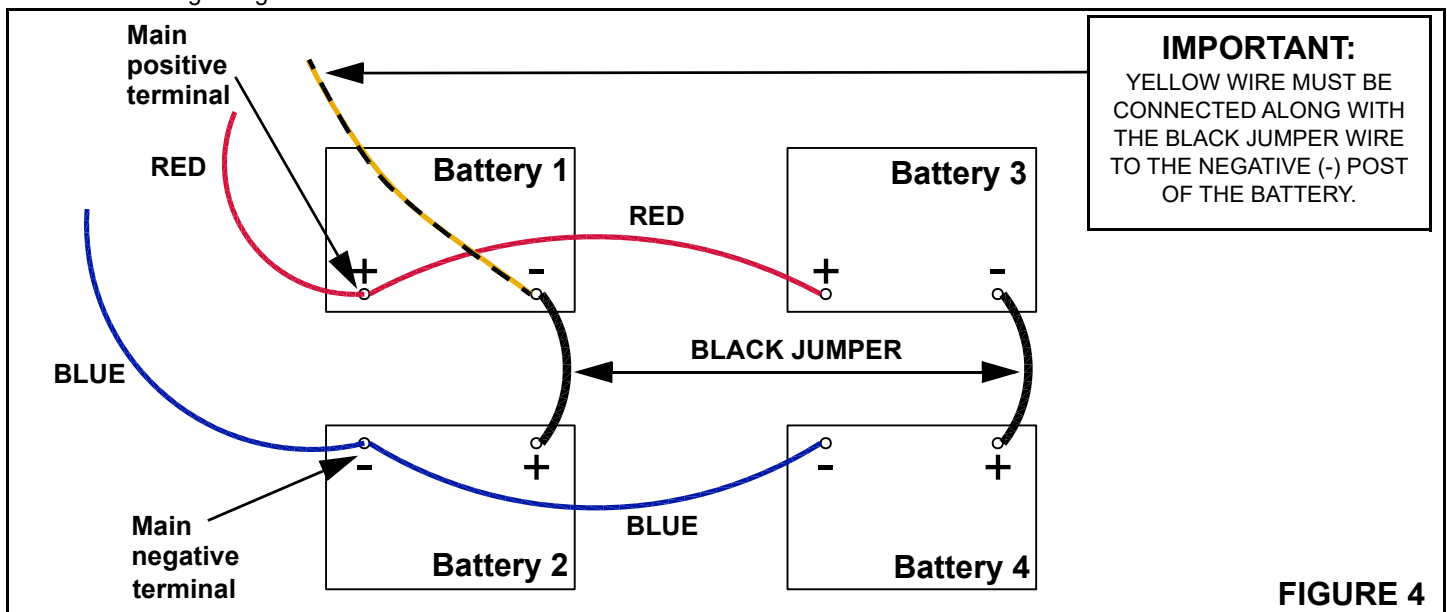

FIGURE 4
STEP 5: CONNECT BATTERIES (SEE FIGURE 4)
- i. Tighten all bolts to a torque of **78 lbf-in ± 4 lbf-in** (figure 4).